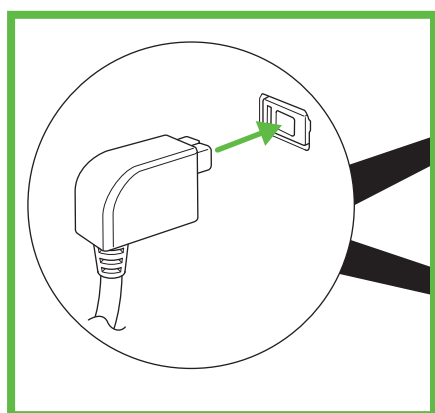

Fig. 2: Connecting the system plug, e.g. Bosch, Shimano or others, depending on the equipment
- ▶ Connect the respective cable to the LEV rechargeable battery (Figure 2).